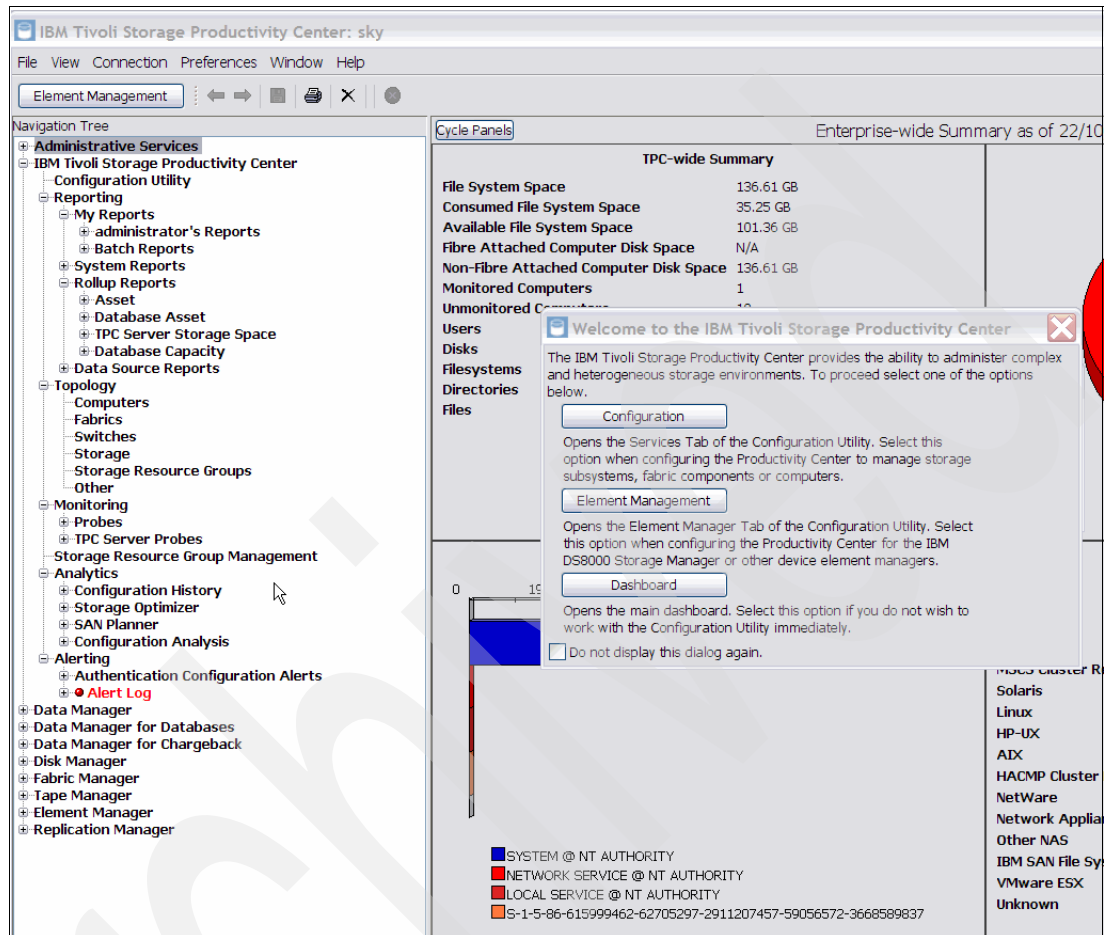

Figure 12-3 TPC welcome window
11. Log onto the TPC GUI with the default user ID and password. The default user ID is db2admin. The default password is passw0rd. If you login for the first time, the TPC welcome window opens, as shown in Figure 12-3.